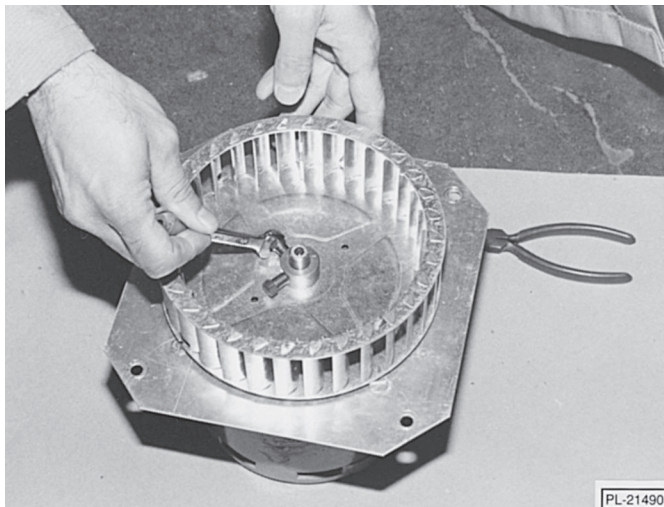

Fig. 60
12. If the replacement motor does not include the fan rotor wheel, remove wheel from old motor for use with new motor. To remove fan wheel, loosen (2) large stud-type nuts on rotor hub, using a $\frac{5}{16}$ " open end wrench (Fig. 60). Pull fan rotor wheel from motor assembly.